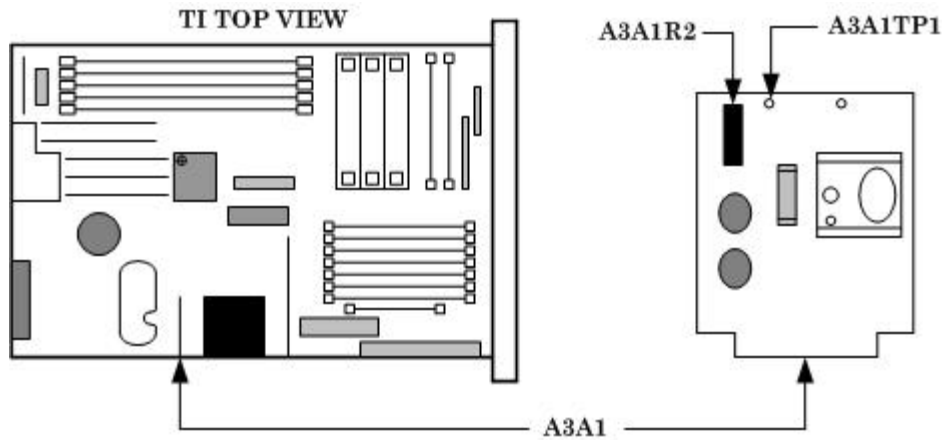

Figure 16. A3A1 card.
(1) Connect digital multimeter to A3A1TP1 and chassis (fig. 16). If digital multimeter does not indicate between +21.98 and +22.02 V dc, perform **b** (1) below.
(1) Adjust A3A1R2 (fig. 16) for an indication of +22.00 V dc on digital multimeter (R).